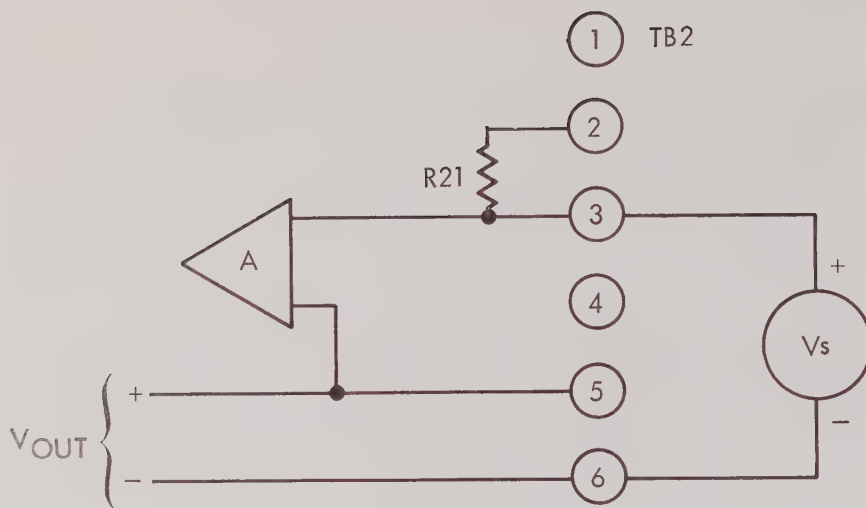

FIGURE 3-1. UNITY GAIN
- a. Unity Gain (1V/V) (figure 3-1)